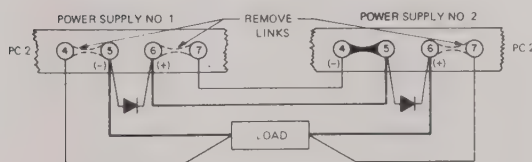

FIG. 3-11 SERIES CONNECTION OF PCX SUPPLIES
- 3-41 General. Kepco PCX—MAT Modules can be series connected for increased voltage output, provided the specified limits on voltage to chassis are not exceeded. When series connected, the supplies should be protected by means of a semiconductor diode across the output terminals of each power supply, as shown in FIG. 3-11. The peak inverse rating of these diodes must be at least as large as the output voltage of the supply to which they are connected. The continuous current rating of the diodes should be at least as great as the largest short-circuit current of the interconnected supplies.
- Connect load as shown in FIG. 3-11. Keep voltage drop in load wires as low as practical by using heavy gauge wire.